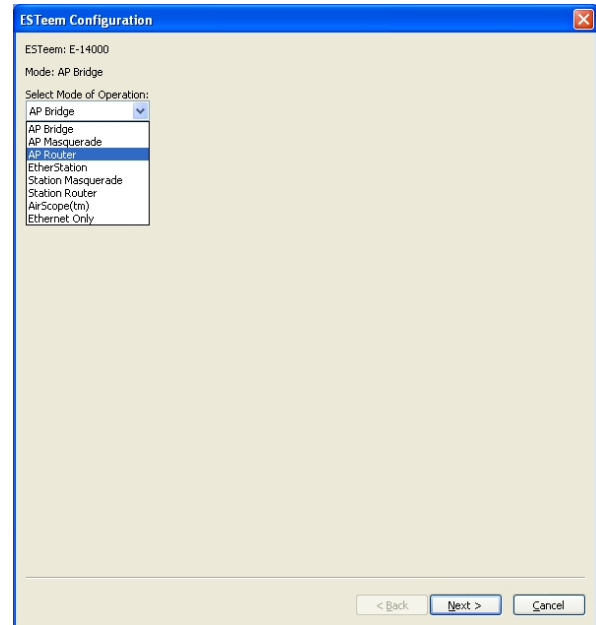

Figure 26: Mode of Operation Selection
- Select Station Router for E-14001 and Station Masquerade for E-14002 in the Mode of Operation (Figure 26). Press the Next button at the bottom of the window to continue.